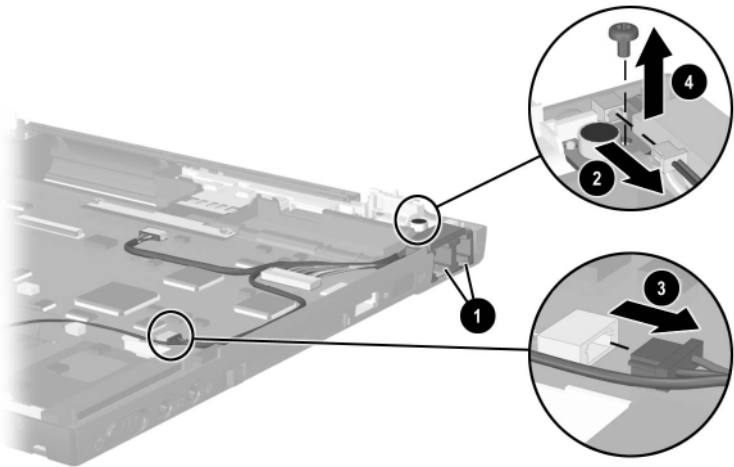

Figure 5-26. Removing the Modem Cable on Evo Notebook N410c Models
6. Lift the RJ45/RJ11 connector module ❶ out of the base enclosure (Figure 5-26).
7. Disconnect the microphone cable ❷ from the connector on the display lid switch board.
8. Disconnect the microphone cable ❸ from the system board.
9. Remove the PM 2.0 × 5.0 screw ❹ that secures the display lid switch board to the base enclosure.